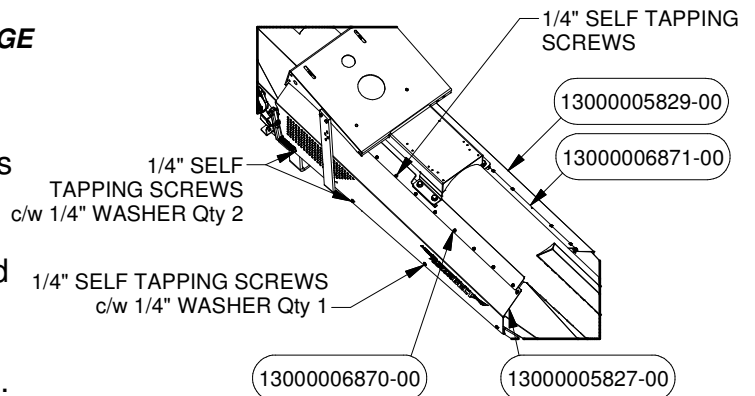

FIGURE 2
2. Place the Covers PN# 5827 and PN# 5829 with the Rubbers PN# 6870 and PN# 6871 to the Intake using Self Tapping Screws as shown in Figure 2. Fasteners can be found in Bolt Bag PN# 6068 in Hardware Box PN# 6913. Rubbers can be found in Hardware Box PN# 7044.